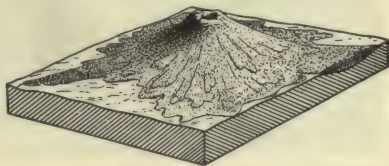

FIG. 278. — Diagram of a volcano.
**Volcanoes.**—Volcanoes are among the most striking phenomena of nature. They are usually cone-shaped (Fig. 278), and from an opening called a crater they pour forth at irregular intervals molten rock, solid rock fragments, hot gases, and vapors. Sometimes the molten rock, or lava, streams out quietly; sometimes there is a violent eruption and large pieces of rock,